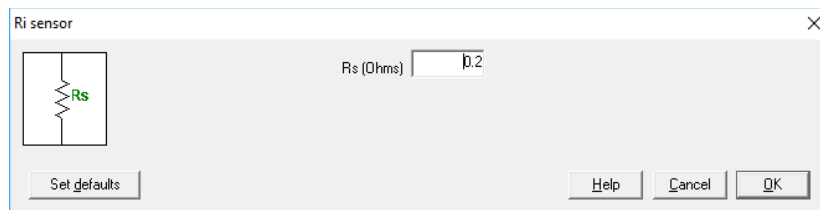

Figure 6: current sensor definition
3. Define the current sensor as shown in Figure 6.